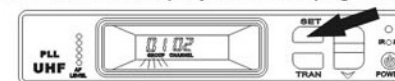

FIGURE 15
a. Press the SET button . the GROUP display will flash (Figure 15).